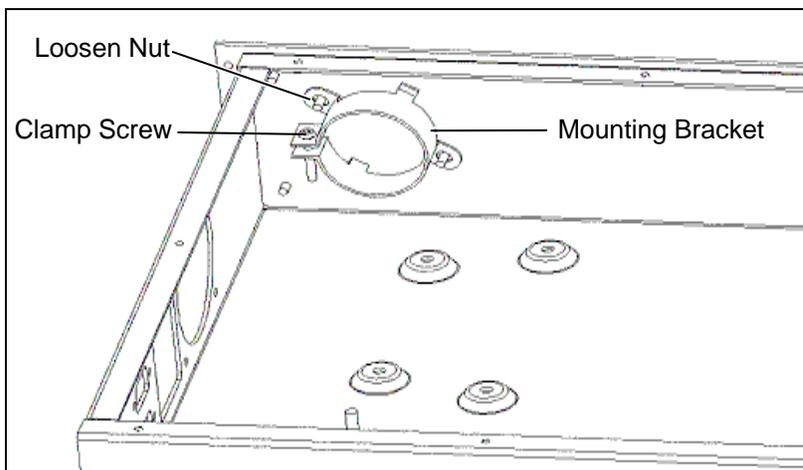

Figure 17-13 Capacitor Bracket
- 4 Loosen the clamp screw on the capacitor-mounting bracket (Figure 17-13).